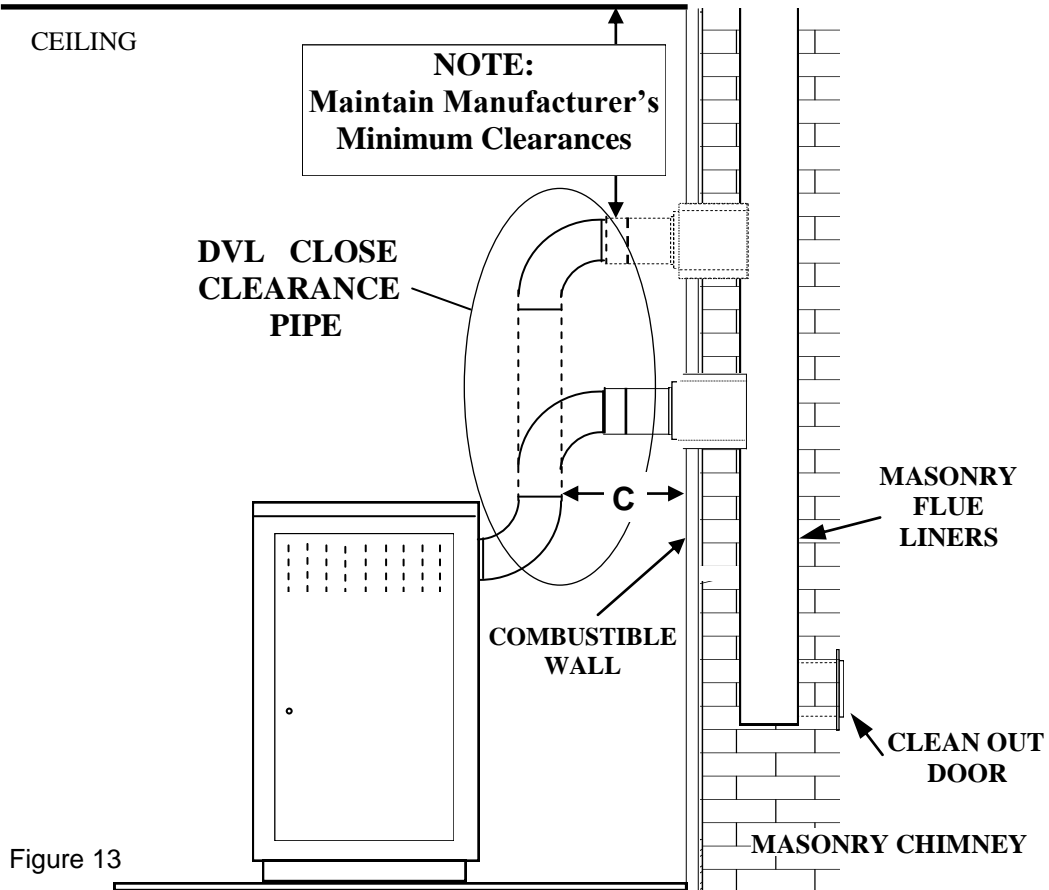

Figure 13
**B-2. 6" DVL Close Clearance Pipe with Elbows (See Page 15, Figure 12 and Figure 13 )**